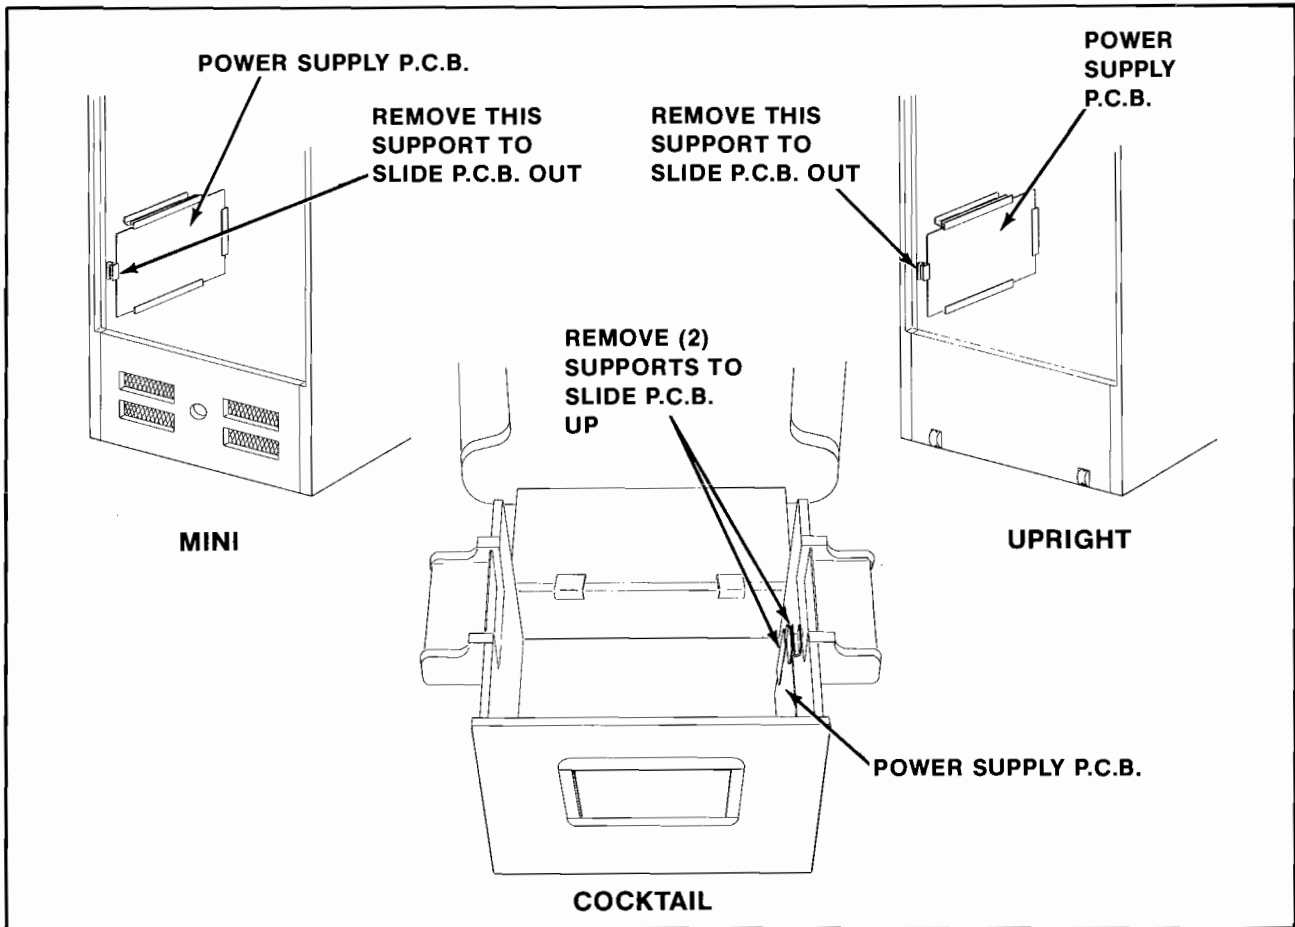

Figure 19 Power supply replacement
1. UPRIGHT MODEL: See Figure 19.
- Disconnect the power supply board from all its cabling, remove the P.C.B. supports indicated in Figure 19, and slide it out the back of the cabinet.
2. MINI MODEL: See Figure 19.
3. COCKTAIL TABLE MODEL: See Figure 19.
- To remove the power supply board. See Figure 19. Disconnect it from all its cabling. Remove the two smallest P.C.B. supports. Once these are removed, the power supply can be lifted out the top of the cabinet. To reinstall the power supply board, reverse this procedure.